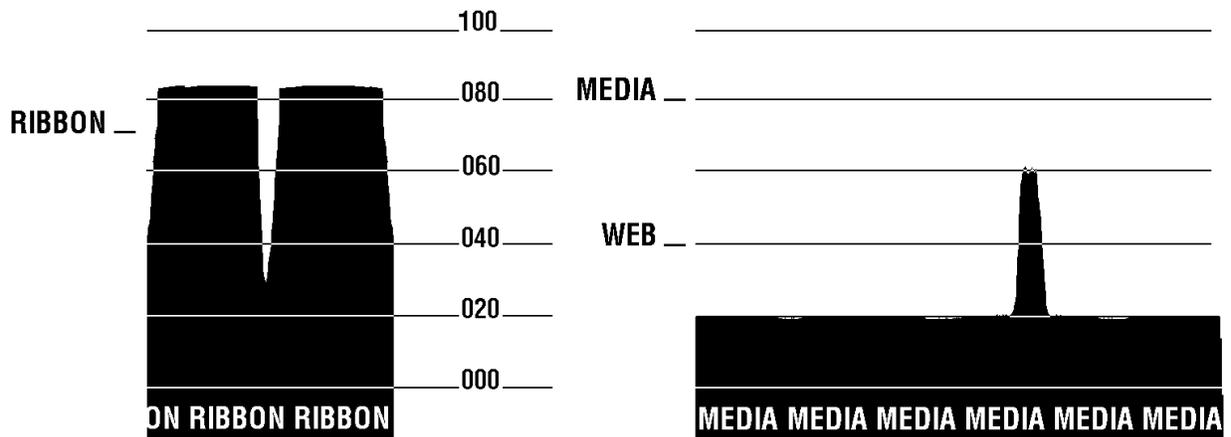

Figure 9. Media Sensor Profile (Sample)
6. Press and release the Feed Key. A profile of the media sensor settings will print. See Figure 9. When complete, the printer will save the new settings in memory and the printer is ready for normal operation.